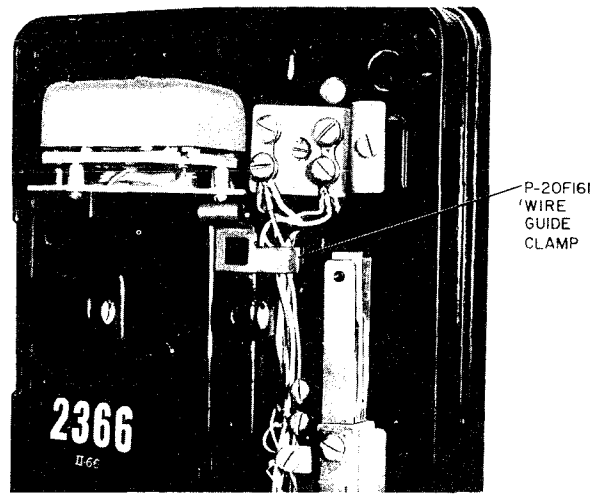

Fig. 36—Installation of Wire Guide Clamp
- (1) Install P-20F161 wire guide clamp (Fig. 36) on backplate. Ensure that wiring is routed as shown.